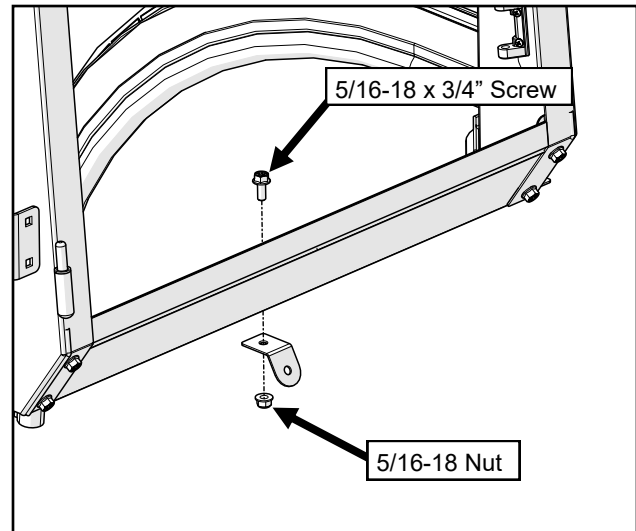

Fig. 18.1 (Install Top Link Bracket)
- 18.1 If desired, install the top link bracket to the bottom of the lower rear panel. See Figure 18.1. Note: The flat edge of the bracket is mounted to the lower rear panel and the round edge is for the hook.